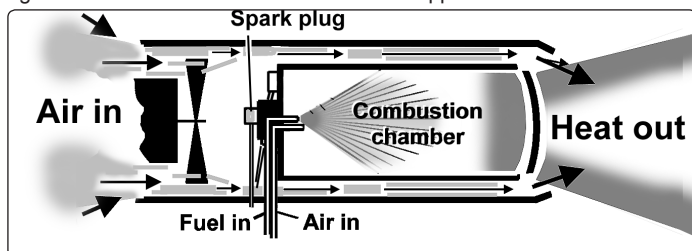

fig.4
5.1. Principles of heat generation (fig.4)